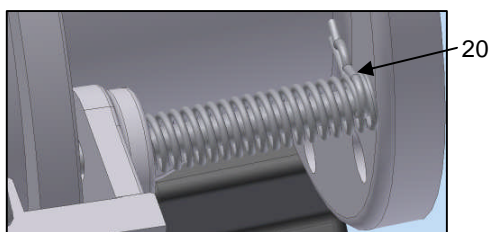

Fig. 19 Note: Hitch Pin pulled all the way through when re-assembling
20. Remove Hitch Pins (20) (discard) from Retractor Guide (28) on both sides of Coupler. (Fig 19)